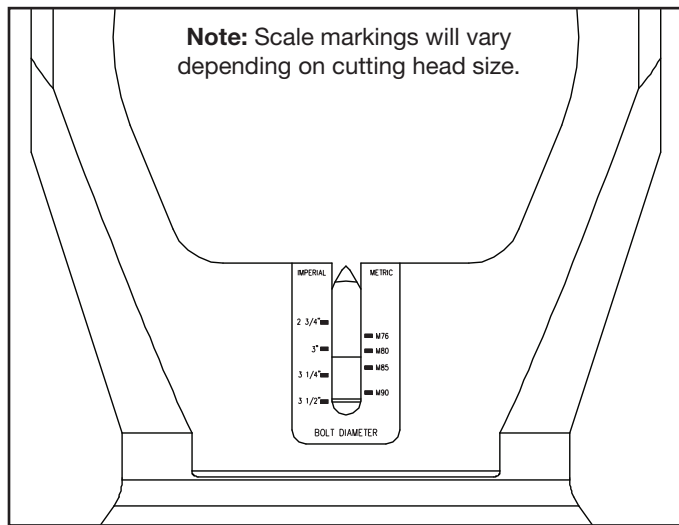

Figure 5, Blade Cutting Depth Scale
4. Rotate the cutting head until the red marker line on the blade holder is aligned with the required bolt size marker line on the scale. See Figure 5.